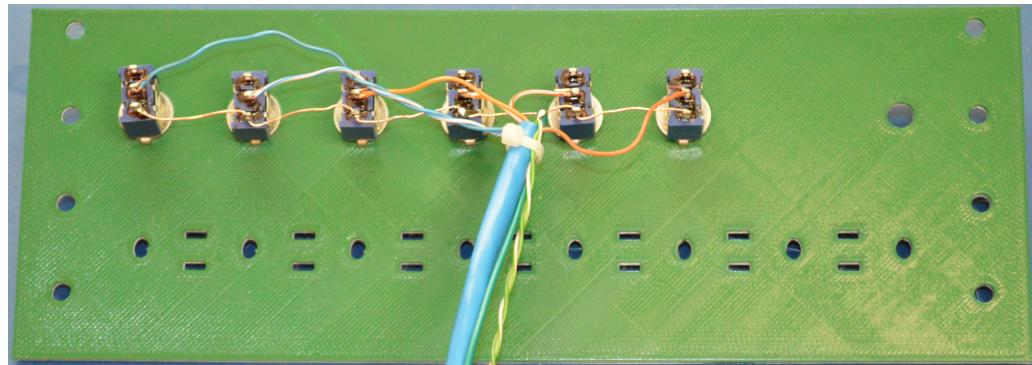

Figure 2.8: Control Panel Switches Showing Wiring
- Install the wiring for the switches as shown in Figure 2.8. Since the control panel has only six switches, one of the cable pairs is unused.